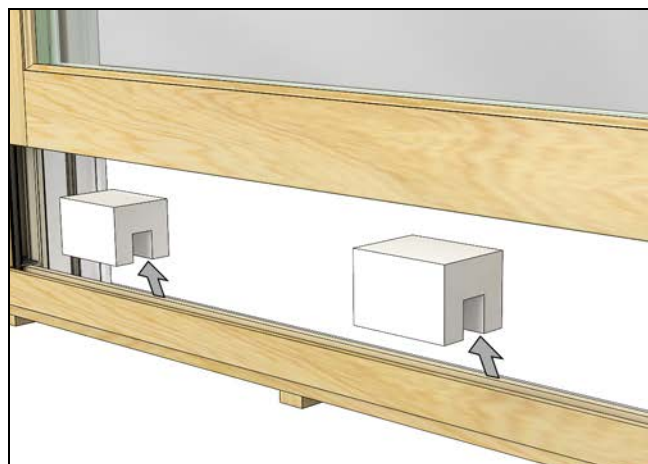

Figure 8
5. Raise the bottom sash and remove the foam blocks from the sill. See Figure 8.